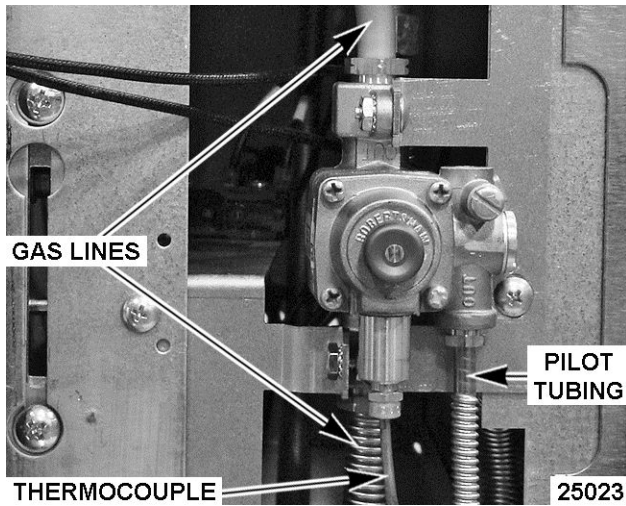

Fig. 38
**Gas Safety Valve on 30" Oven Shown in Fig. 38**